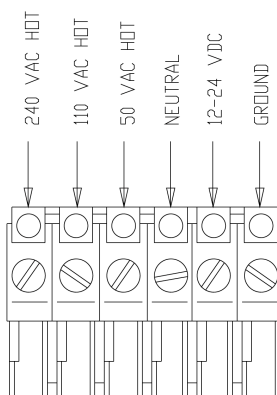

Figure 2.15: Input Power Connections
1. Refer to Figure 2.15: Input Power Connections to determine the appropriate power input block tie in points.
4. Connect incoming power to the 6 point terminal block as shown in Figure 2.15: Input Power Connections per customer requirement.